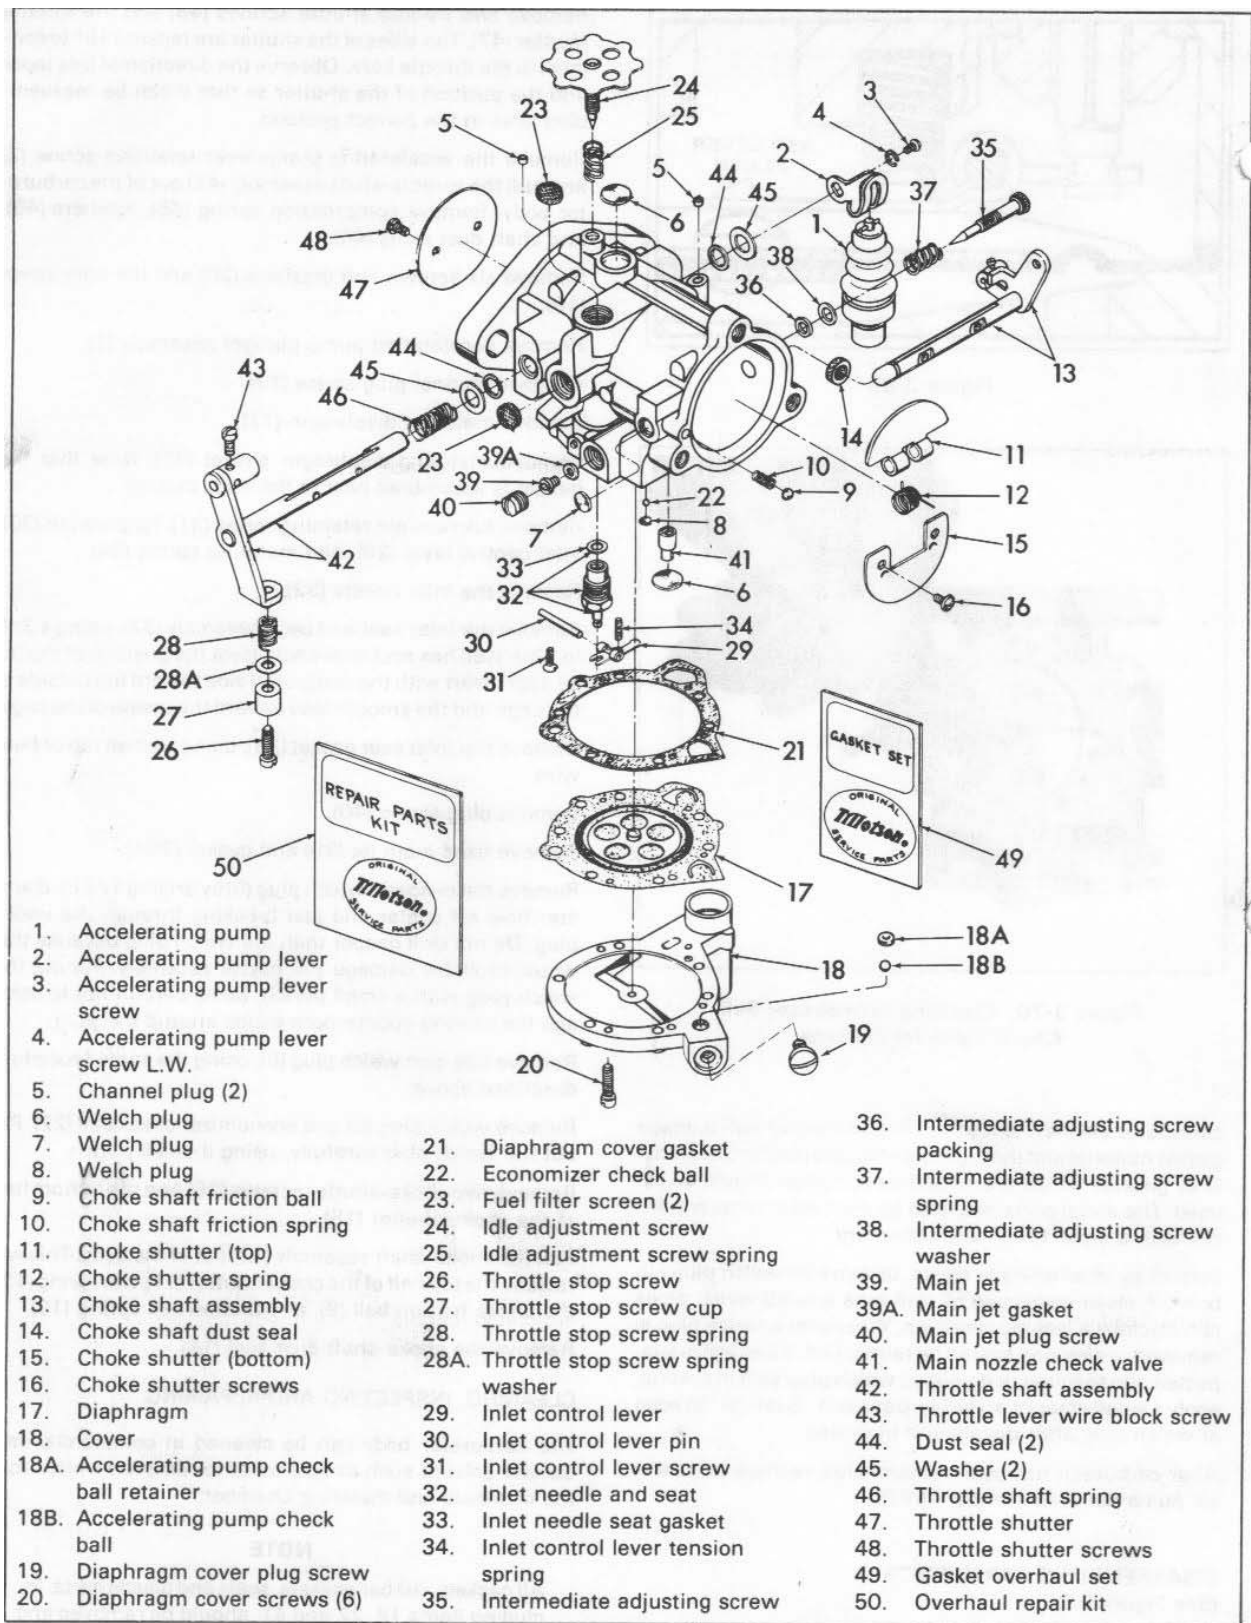

Figure 3-71. Model HD Carburetor - Exploded View - 1970-71 Models
DISASSEMBLING CARBURETOR (See Figure 3-71)
The inlet control lever must rotate freely on the fulcrum pin and forked end must engage slot in inlet needle (see Figure 3-71). The spring (34) should not be stretched or distorted.
ASSEMBLING CARBURETOR (See Figure 3-71)
TROUBLESHOOTING GUIDE (See Figure 3-71)